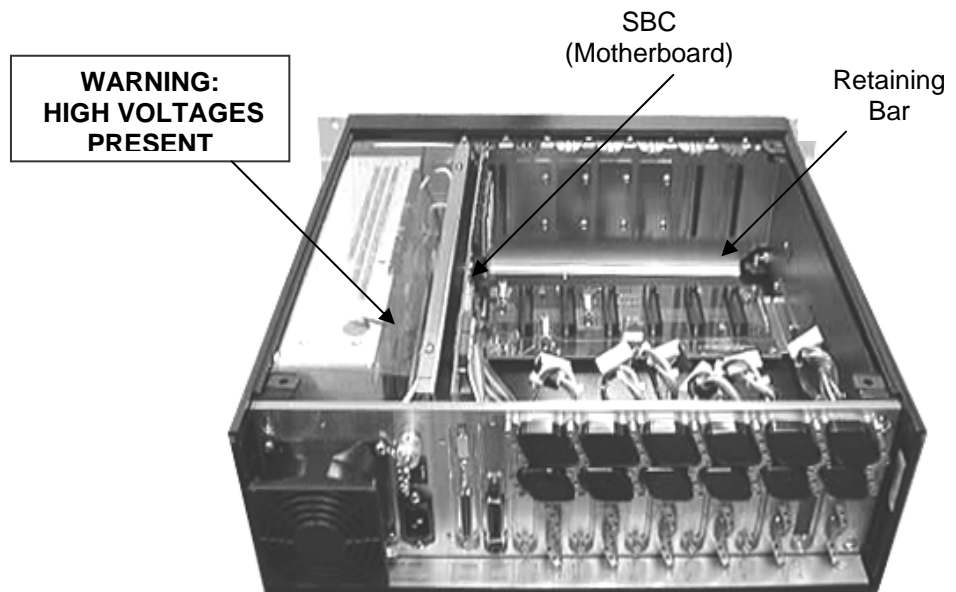

Figure 57: The retaining bar removal
6. Remove the axis board retaining bar located along the inside front of the controller. *See Figure 57.*